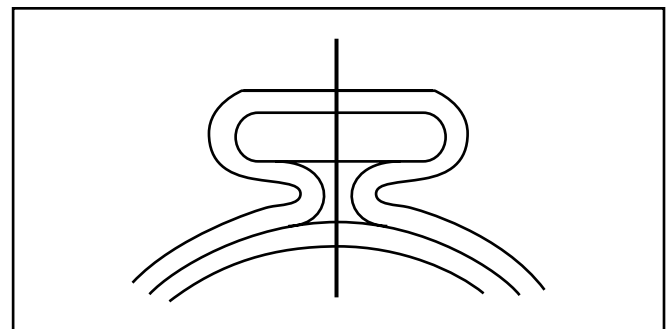

Fig. 6: Full ear closure required
3. **IMPORTANT:** For proper installation of Oetiker PEX series clamps, full ear closure is required. Visually inspect clamp for correct closed ear form. (Fig. 6)